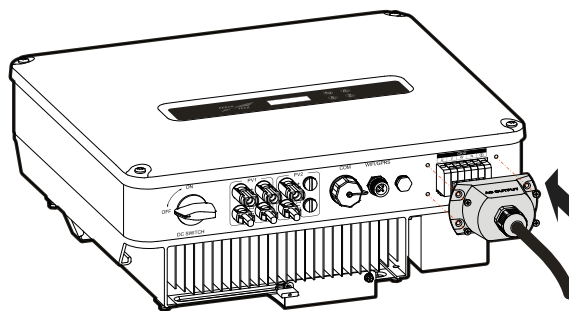

Figure3-24 Fasten the AC output waterproof cover
- Step 3 After wiring, fasten the AC output waterproof cover to the inverter (as shown in Figure3-24) by four flat screw M4*12 and then screw the external AC output nut.